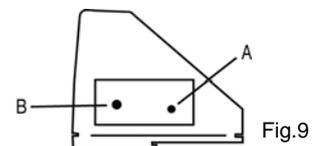

Fig.9
7. Insert a receiver in to each heater in zone 1 and press the small recessed button (A) with a pen until the light (B) begins to flash. Press the button again briefly and the light will remain constant, confirming the signal has been received (see Fig.9)